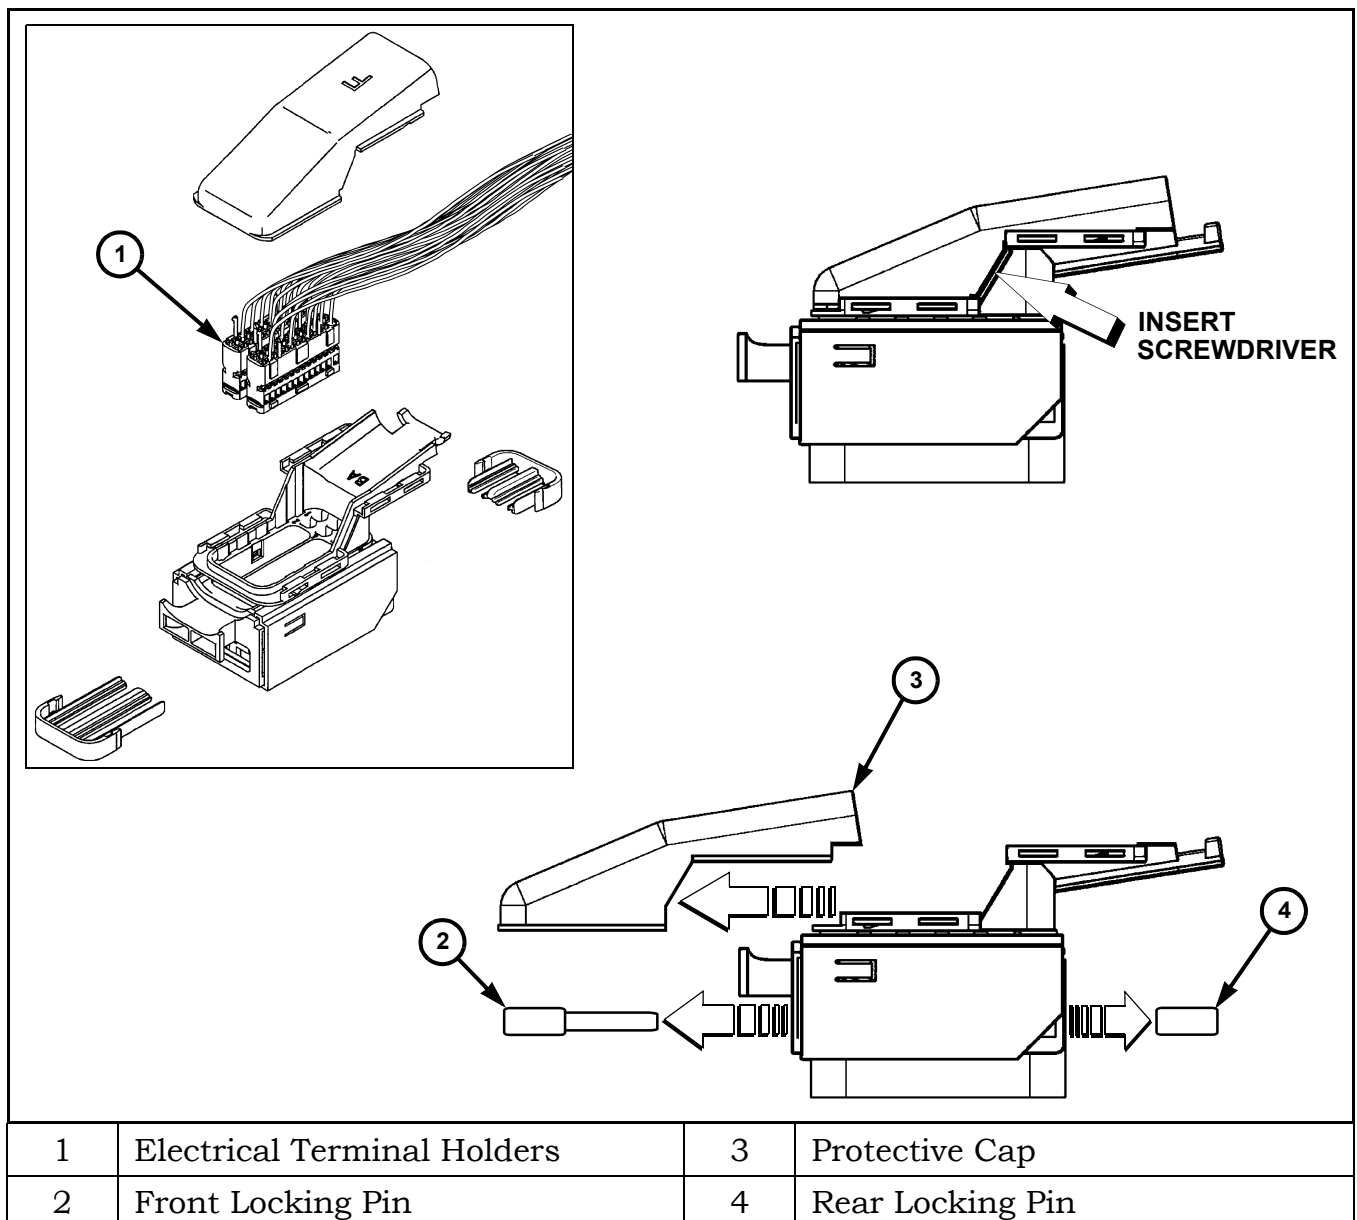

Figure 244 Vehicle Harness Connector Disassembly
- Carefully disassemble the plug-in connector to expose the wire insertion end of the connector. Remove the protective cap by inserting a wide blade screwdriver in the wedged area between the connector housing and protective cap (arrow). Alternating between both sides of the connector, gently twist on the screwdriver handle to separate the protective cap from the connector housing. Slide the protective cap away from the housing (Figure 244).